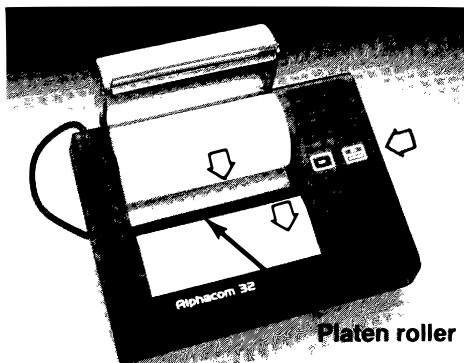

Figure 2
LOADING ROLL PAPER INTO THE PRINTER Paper loading may be easily accomplished by following the steps shown in **Figures 2, 3 and 4.**
STEP 2: Place the paper roll in the printer paper tray with about 6" of paper coming from underneath the roll. Insert the leading edge of the paper below the rubber platen, and press the ON/ADVANCE button. The paper will feed automatically. See Figure 2.